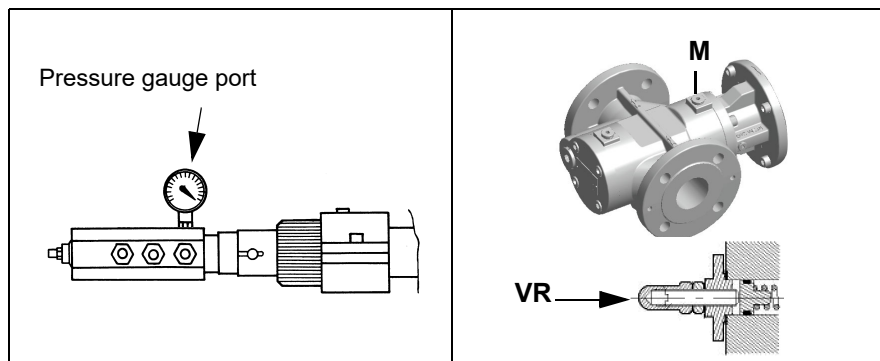

Fig. 8
- 3 bleed the air from the **M** pressure gauge port (Fig. 8) by loosening the cap without removing it, then release the contactor.
- 4 Only if necessary, adjust the supply pressure as follows (see related paragraph); insert a pressure gauge into the port shown on Fig. 8 and act on the pump adjusting screw **VR** (see Fig. 8) as to get the nozzle pressure at 25bar (according to the nozzle model provided- see page 43).